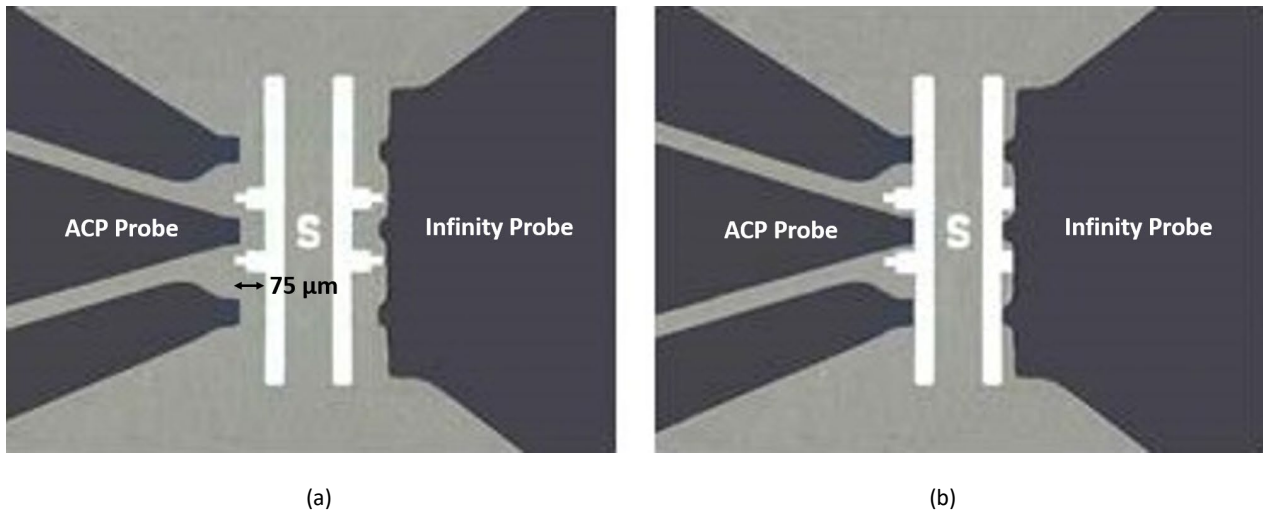

Fig. 6.1. (a) Initial and (b) final contact positions of the probe tips on the alignment marker of the ISS.
- 6.5 Adjust the probe positioners to align the probe tips on the alignment marker [Fig. 6.1(a)].
- 6.6 Gently lower the probes to contact the alignment marker, then add sufficient overtravel (downward adjustment of the z-micrometer after initial touchdown) to allow the tips to skate horizontally $75\text{--}125\ \mu\text{m}$ for ACP probes, $50\text{--}75\ \mu\text{m}$ for Infinity probes, or another amount specified by the probe manufacturer [Fig. 6.1(b)]. The same amount of overtravel and skate will be used in most measurements.
8.13 Finetune the probe positioners to contact the DUT with the amount of skate set in Sec. 6 (Fig. 6.1).